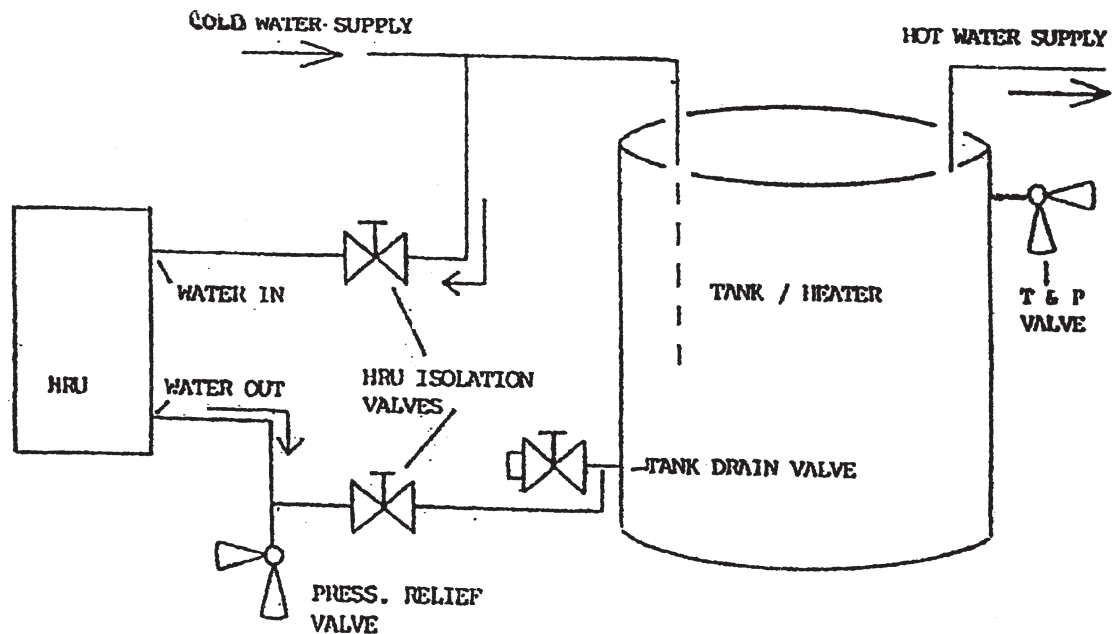

Figure W-102A
**ISOLATION/ DRIAN VALVES:** Isolate the HRU from the water heating system for cleaning and maintenance. This may be accomplished by installing valves (gate, ball, or globe) on the supply and return lines, between the tank and the HRU. If such valves are used, a pressure relief valve located on either line (supply or return), between the HRU and the isolation valves, should be installed. This will allow venting of excess water pressure if the HRU is allowed to operate with the isolation valves closed. (Figure W-102A)